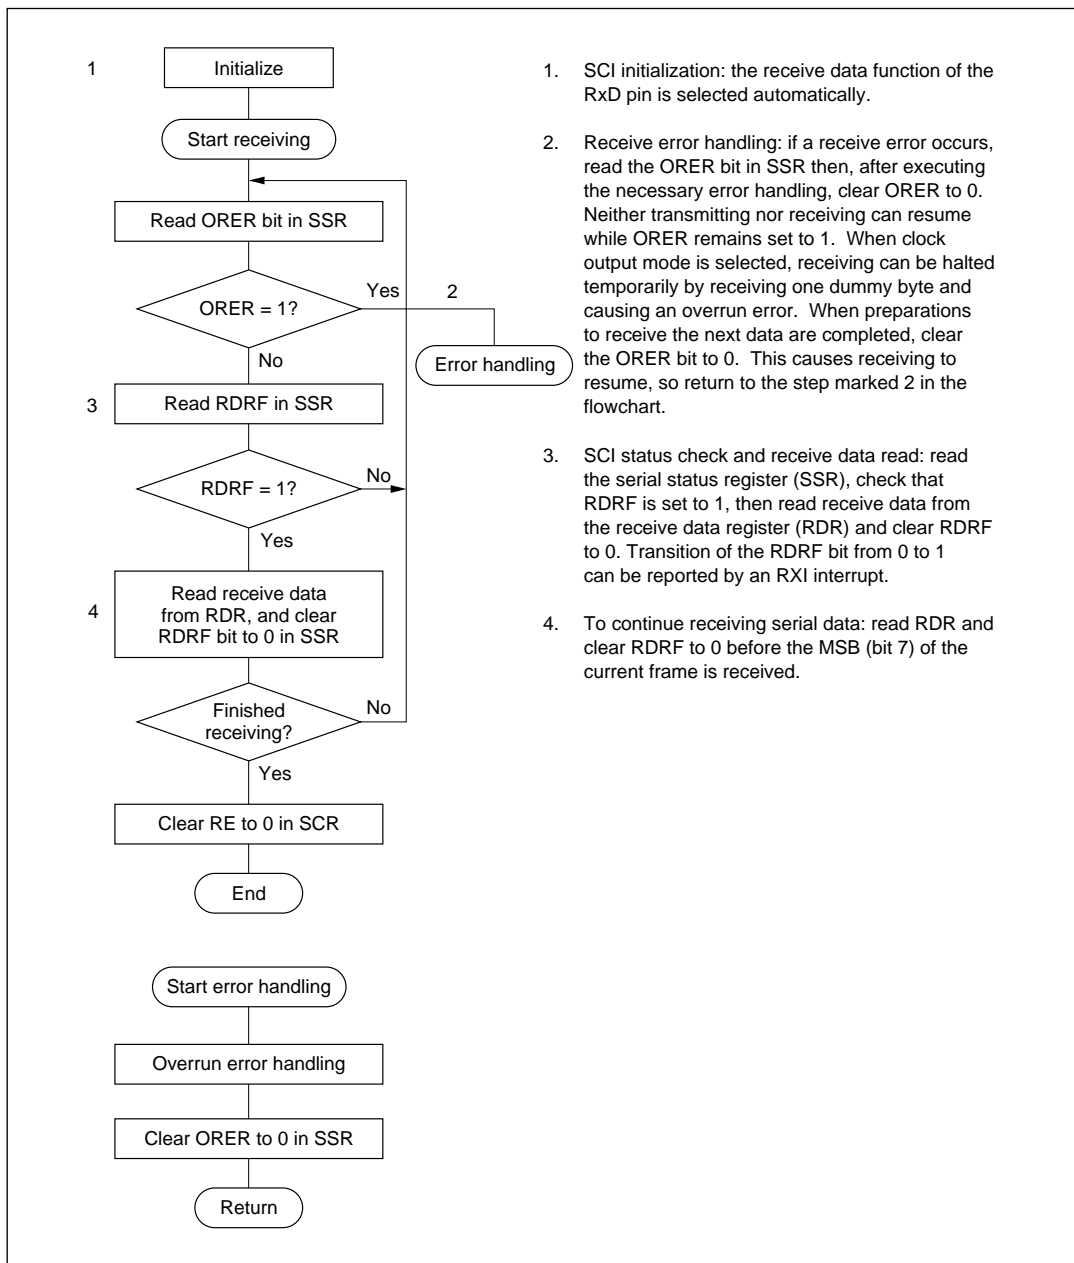

Figure 11-15 Sample Flowchart for Serial Receiving
• **Receiving Serial Data:** Follow the procedure in figure 11-15 for receiving serial data. When switching from asynchronous mode to synchronous mode, be sure to check that PER and FER are cleared to 0. If PER or FER is set to 1 the RDRF bit will not be set and both transmitting and receiving will be disabled.